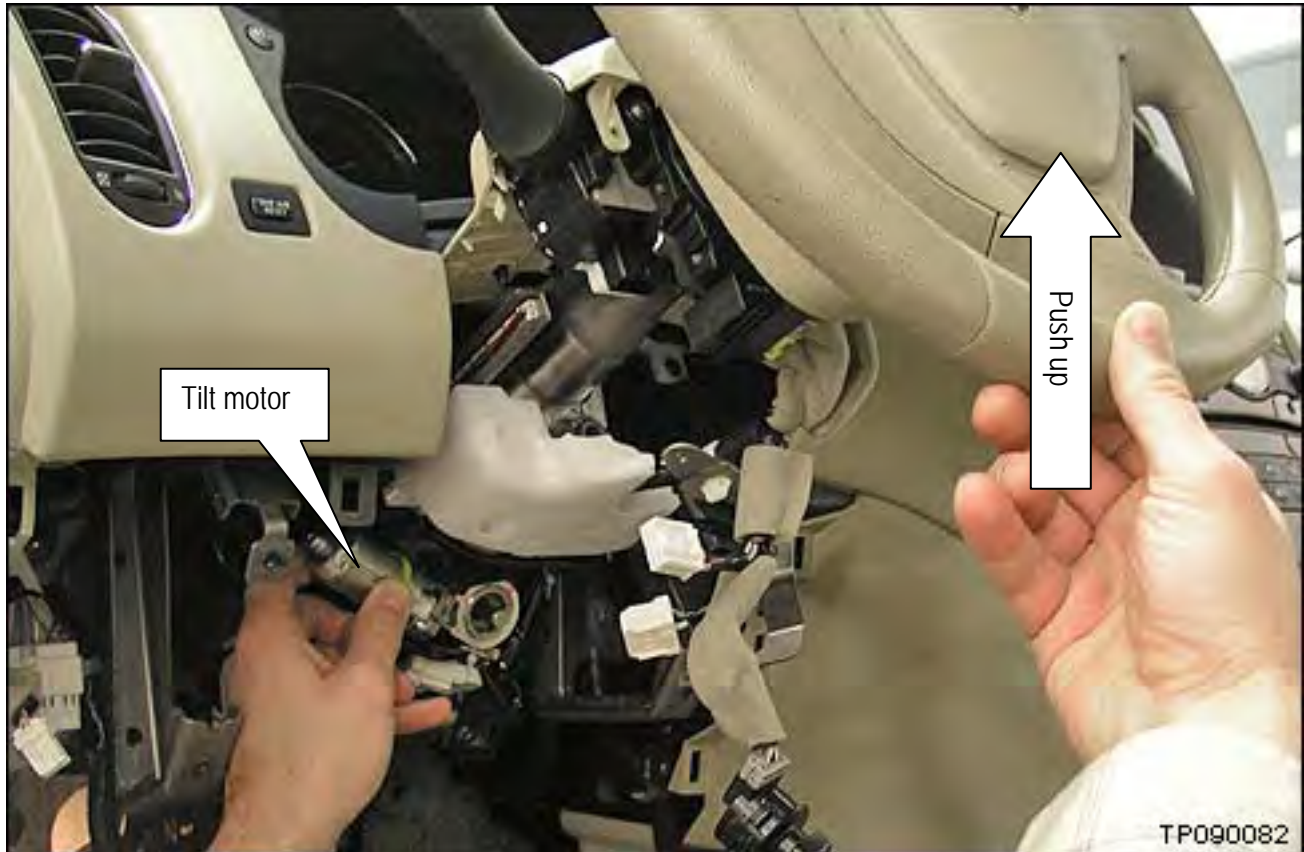

Figure 25
16. Remove the tilt motor as shown in Figure 25 and 26: